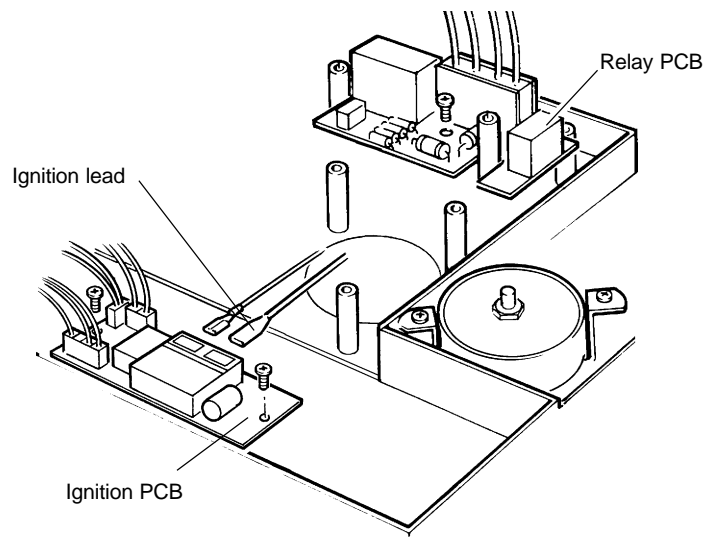

Fig. 28 - Alpha 240XP
8.21 IGNITION PCB (Alpha 240XP only) - Refer to Fig. 28
3. Refer to Fig. 28, connect the wiring to the new PCB and re-assemble in reverse order.